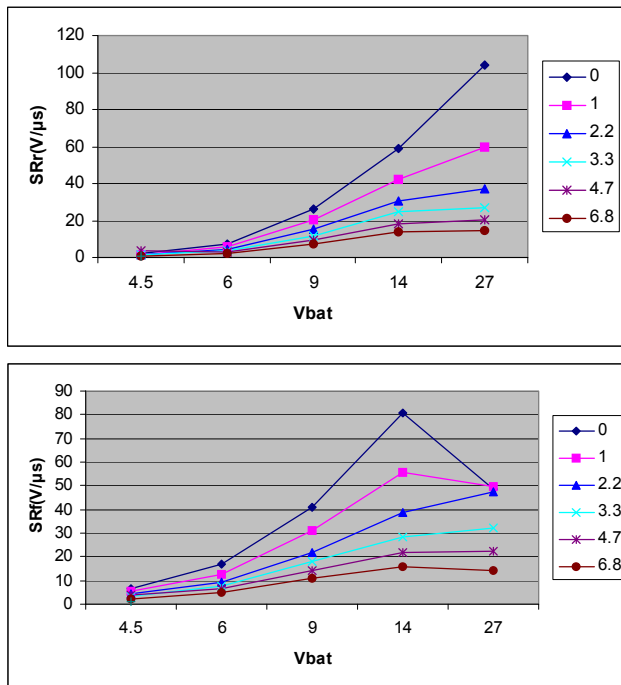
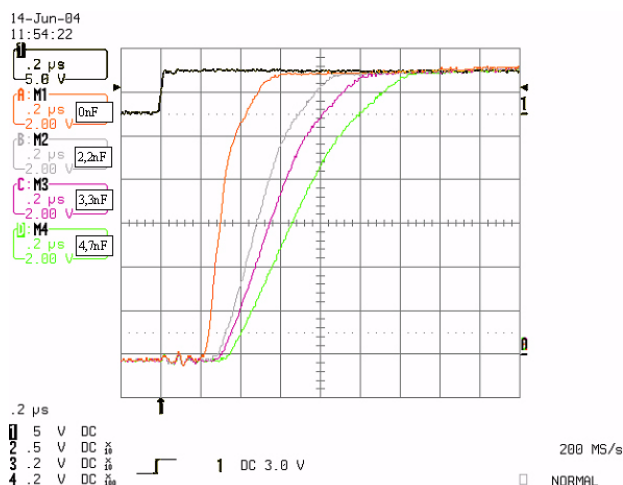

Figure 36. Positive and Negative Slew Rate vs. SR Capacitor
Figure 37. OUT switching vs. SR Capacitor
The switching time is a critical parameter. The 33981 provides adjustable slew rates through an external capacitor (SR) that slow down the rise and fall times to reduce the electromagnetic emissions. However, this adjustment will have an impact on power dissipation. Figure 36 gives the positive ( $SR_R$ ) and negative ( $SR_F$ ) slew rate versus different values of SR. This is illustrated in Figure 37.